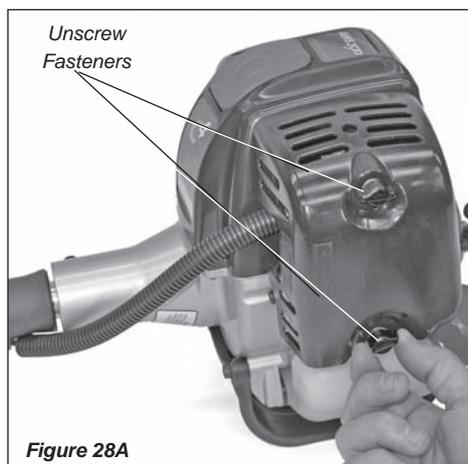

Figure 28A
- Remove the air cleaner cover by loosening the thumb screws and lifting up. See Figure 28A.